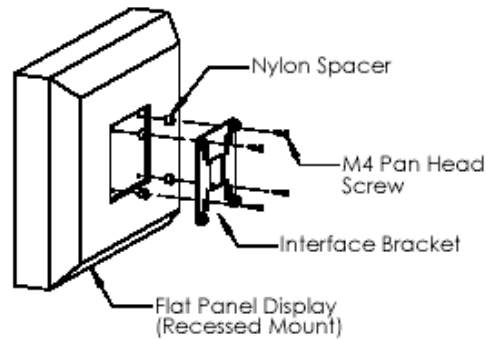

Figure 3
1. Place four Nylon spacers (3/8" or 3/4" as necessary) over four mounting holes in flat panel display (see Figure 3).